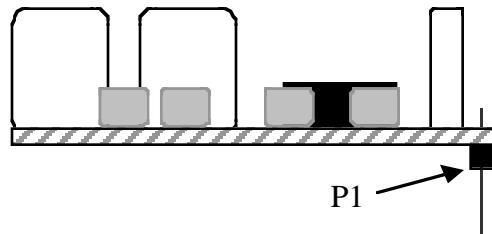

Figure 4-4
- Install an 8-pin male connector (plug) at P1, but do not solder yet. Figure 4-4 shows P1 as viewed from the left end of the Filter board. The plastic part of the connector must be on the bottom side of the board, with the long end of the pins pointed down. The short pins are inserted into the board.